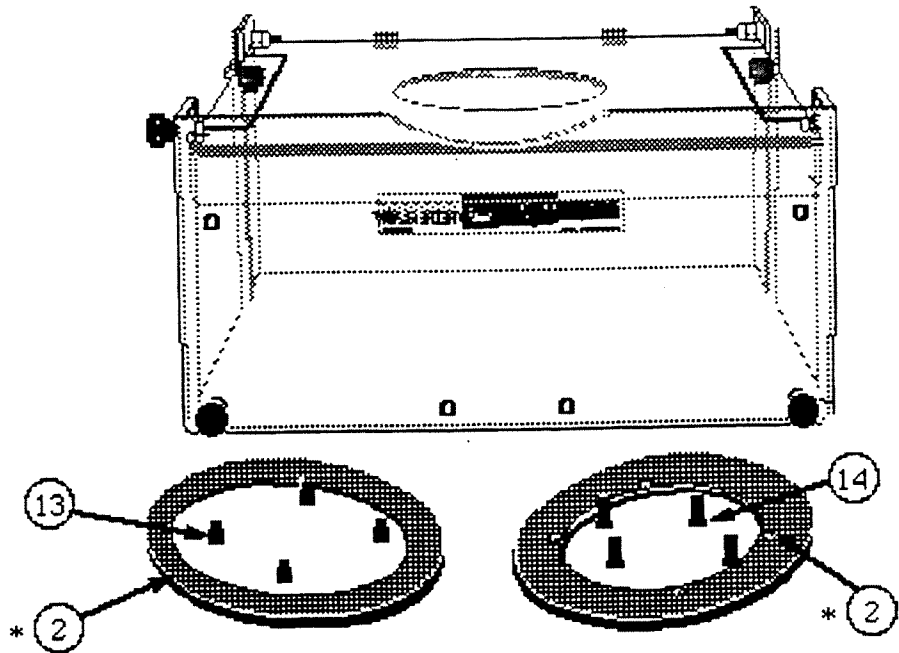

Figure B-2. New Machines With Erickson #30 Quick Change or Universal #200 Quick Change Spindles
B.2.2 Erickson #30 Quick Change or Universal #200 Quick Change Spindle (Figure B-2).